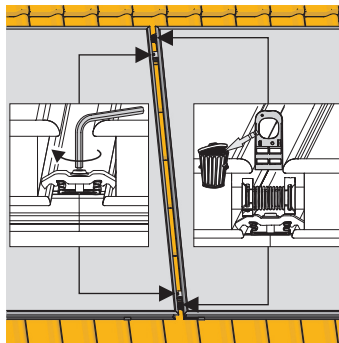

Fig. 3-27 Pulling off the assembly supports.
9. Tighten down the double clamping blocks (Fig 3-27).
10. Pull off the assembly supports (Fig 3-27).